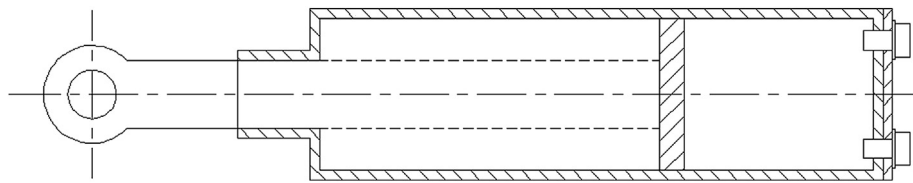

FIGURE 8.30
- Step 10.** Add the bolt projections, as seen in Figure 8.30 (the depth into the side view can be approximated). Finally, add hatch patterns, using the **Angle** option to reverse the hatch directions, which is a common technique in mechanical design to differentiate the parts from each other in a cross section.